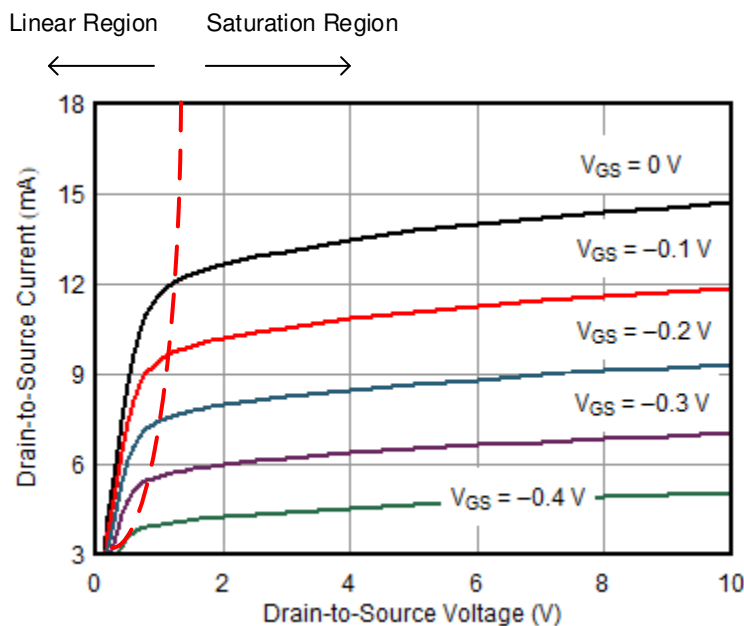

Figure 8-1. V_{DS} vs I_{DS}
- For $V_{GS} > V_{GSC}$: Two modes of operation can exist depending on V_{DS} . When V_{DS} is less than the linear (saturation) region threshold (see Figure 8-1), the device operates in the linear region, meaning that the device behaves as a resistor connected from drain-to-source with minimal variation from any changes in V_{GS} . When V_{DS} is greater than the linear (saturation) region threshold, I_{DS} has a strong dependence on V_{GS} , where the relationship is described by the parameter g_m .